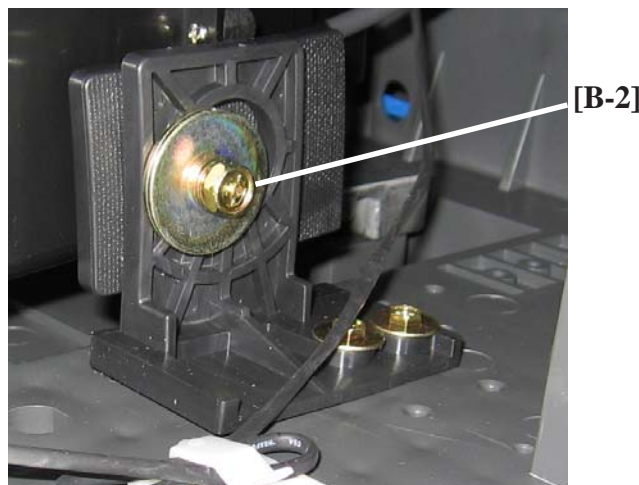

Figure 2: 52" & 62" Side Locking Screw
- In 52" and 62" models [B-2] is accessible from the rear of the unit on the right side of the Optical Engine (from the rear). (*Figure 2*)